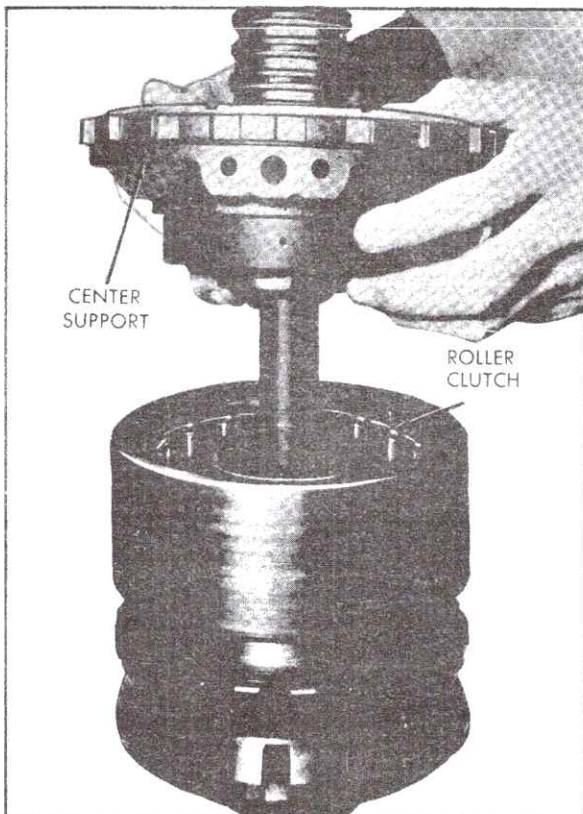

Fig. 7-89 Installing Center Support in Reaction Carrier
19. Install center support assembly into roller clutch in reaction carrier, Fig. 7-89.